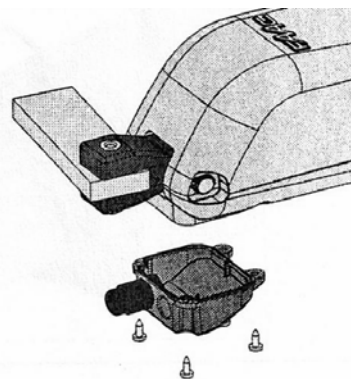

Figure 6. Attach the electric cable cover with two screws provided
Slide the cable/strain relief cover up the cables until flush with the 415 Operator and secure the cover with the four (4) screws provided as shown in figure 6.